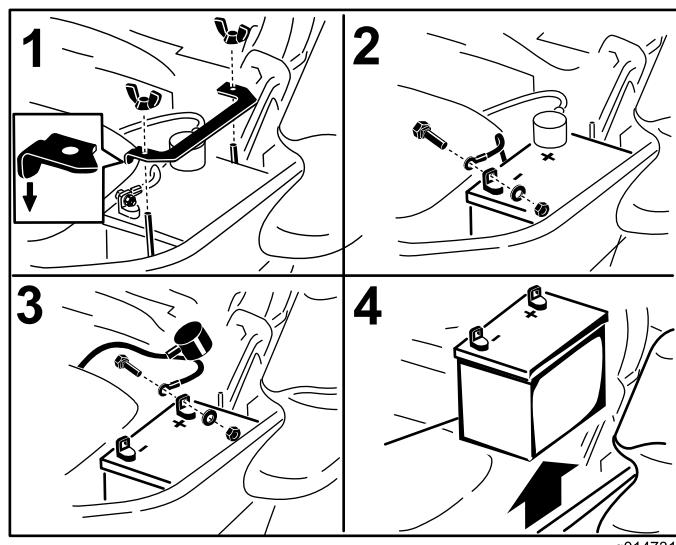

Figure 56
- First disconnect the negative battery cable (black) from the negative (-)(black) battery terminal (Figure 56).
- Slide the red terminal boot off the positive (red) battery terminal and remove the positive (+)(red) battery cable (Figure 56).
- Remove the wing nut securing the battery clamp (Figure 56).
- Remove the clamp (Figure 56).
1. Position battery in the tray with the terminal posts opposite from the hydraulic tank (Figure 56).
4. Secure the cables with 2 bolts, 2 washers, and 2 locknuts (Figure 56).
6. Install the clamp and secure it with the wing nut (Figure 56).